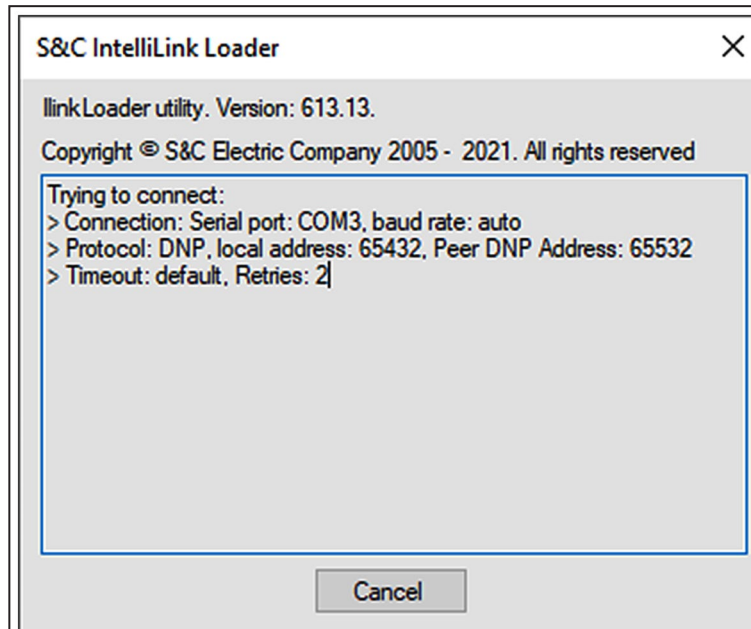
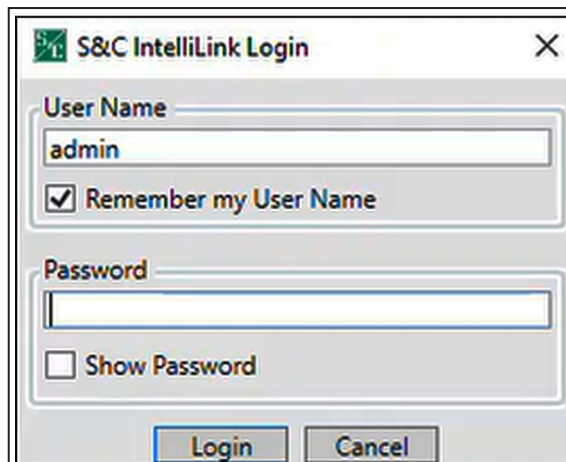

Figure 9. The S&C Ilink Loader dialog box.
Figure 8. The User Name and Password entries in the S&C IntelliLink Login dialog box.
STEP 6. The Ilink Loader dialog box will open followed by the S&C IntelliLink Login dialog box. See Figure 8 and Figure 9 on page 14. Enter the User Name and Password, and click on the **OK** button. Contact S&C if assistance is needed with these entries.